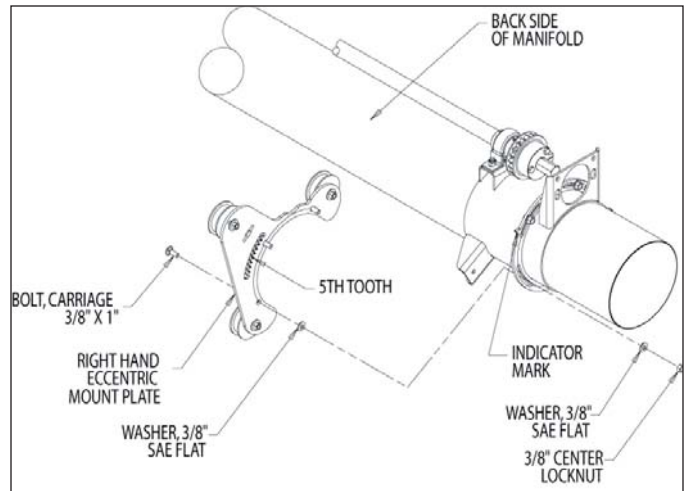

Figure 19, RH eccentric mounting plate
- Assemble the RH & LH Eccentric Mount Plates (with the nylon rollers facing to the center of the manifold) to the RH & LH End clamps using six 3/8" X 1" carriage bolts, twelve 3/8" SAE flat washers and six 3/8" centerlock nuts. Do not tighten yet (Figure 19 & 20).